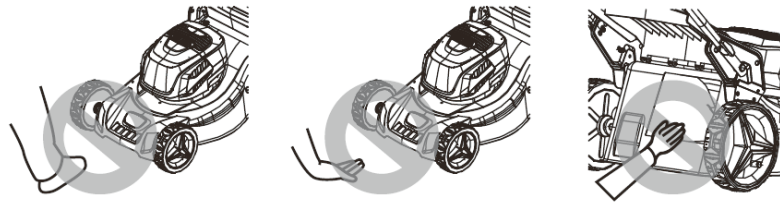

Fig.10C
- e) Never place your hands or feet underneath the under pan of the mower or into the rear discharge chute while the motor is running. Fig.10C. **Remove the batteries before completing any maintenance.**